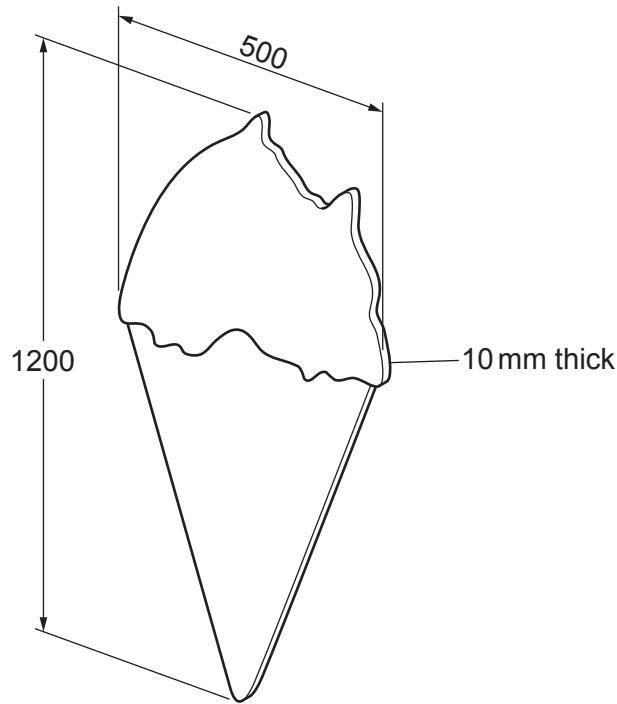

Fig. 8.1
- 8 Fig. 8.1 shows an incomplete idea for a display stand that will be used to promote a new café called '24/7 Ice cream'. The display stand will be made from a lightweight sheet material.